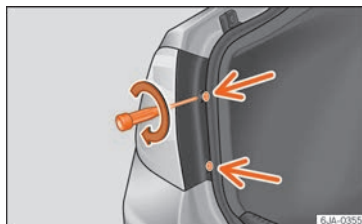

Fig. 103 Fit the tail light unit.
- Take the screwdriver or a Torx 20 key (T20) from the vehicle tool kit and tighten (turning clockwise » **Fig. 103**) the two retaining screws that secure the front of the light.